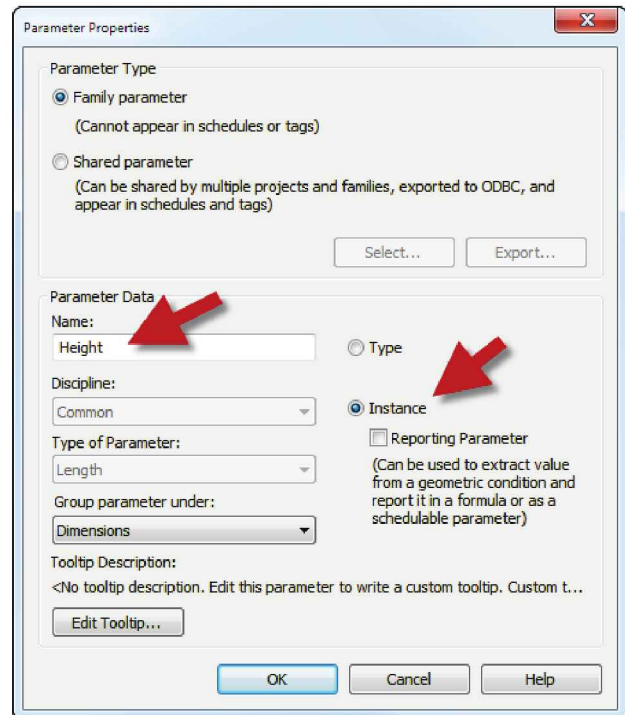

FIGURE 18-3.7 Creating the *Height* parameter
11. Add a **Height** parameter to the dimension (see Figure 18-3.7 and 18-3.8).